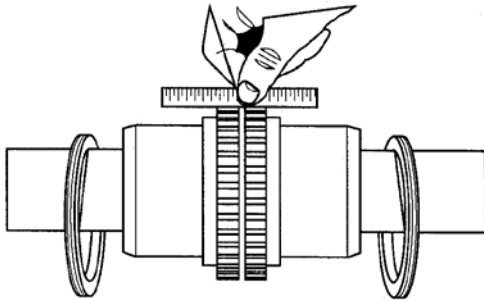

FIGURE 7D – USING STRAIGHT EDGE
9. Align so that a straight edge rests within the limits shown in Figure 7D on both hubs as shown below and also at 90° intervals without rotating the coupling. Check with feelers. The clearance must not exceed the PARALLEL OFFSET installation limits specified in Figure 7H.